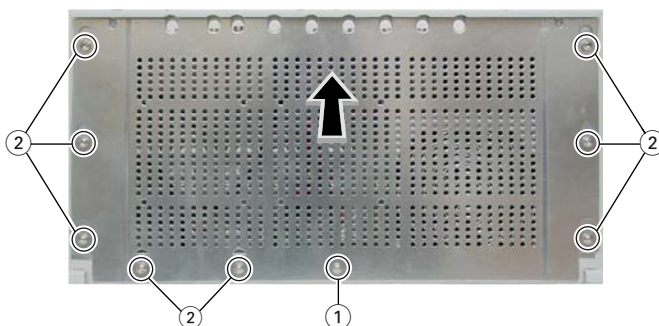

Fig. 8
- Position the breakthroughs in the base plate above the fastening screws (2) (fig. 8).
- Push the base plate in direction of the arrow and lock it with the locking screw (1).
- Tighten the fastening screws (2).